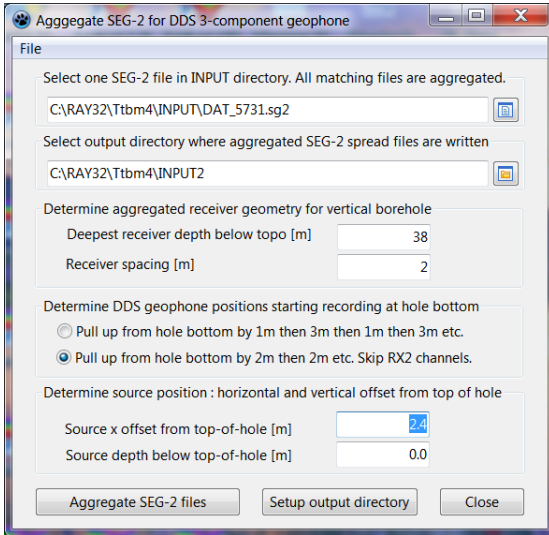

Fig. 5 : click SEG2 Aggreg 5.01 icon. Edit as shown. Click *Setup output directory* / **Aggregate SEG-2 files**.
- open SEG2 Aggreg 5.01 program via desktop icon. See Fig. 5.
- in frame **Determine DDS geophone positions** click radio button **Pull up from hole bottom by 2m then 2m etc. Skip RX2 channel**. See Fig. 5.
Fig.14 : *Header|Shot*. Check if fields x and z in frame *Source Coords. [m]* match the *Source x-offset from top-of-hole* and *Source depth below top-of-hole* as specified in *SEG2\_Aggregate* program (Fig. 5).